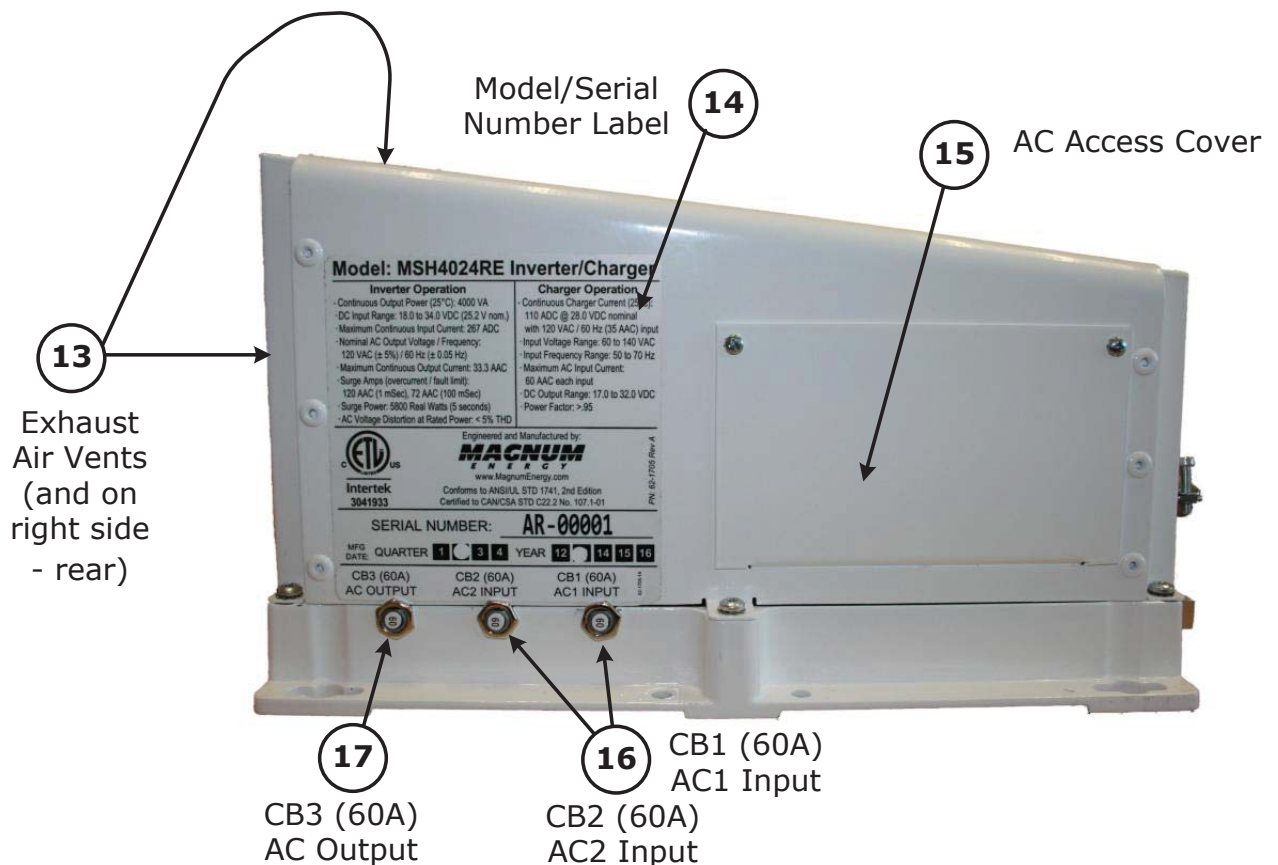

Figure 1-3, Left Side Features
The left side of the MSH-RE Series inverter is equipped with the following features (Figure 1-3):
**Ventilation** – In order for the inverter to provide full output power and to avoid over-temperature fault conditions, do not cover or block the inverter’s ventilation openings or install this inverter in an area with limited airflow. The inverter uses two fans to provide forced air cooling, these fans pull in air through the intake vents (see Item 9, Figure 1-2) and blow out air through the exhaust vents (see Item 13, Figure 1-3). Allow at the minimum an airspace clearance of 6” (15.2 cm) at the intake and exhaust vents, and 3” (7.6 cm) everywhere else to provide adequate ventilation.